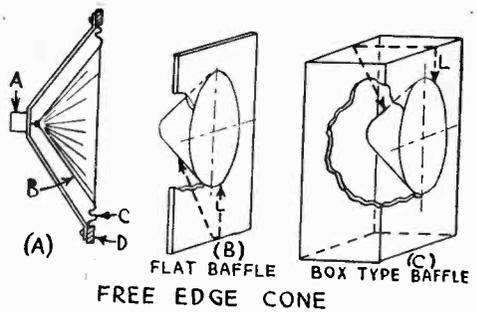

Figure 2
*Right, Fig. 2: One of the giant bakelite presses used for the manufacture of sheet bakelite. Compare this in size with the husky operator, who stands more than six feet tall.*
This is accomplished by placing a baffle around the cone, taking either of the forms shown in Fig. 2. The air must now take the long path L around the baffle in order to get from one side of the cone to the other. By making this path long enough, the air cannot get from the front to the back of the cone (or vice versa) in time to equalize the air pressure, as will now be explained.
It is evident then that the purpose of the baffle is simply to *delay* the meeting of the front and back sound waves by artificially increasing the distance from the front to the back of the cone. It is evident that to fully reproduce any note the shortest length of the path from the front to the back of the cone (distance L in Fig. 2, B and C) must be made at least equal to the distance the sound travels during the time it takes to complete one-quarter of a cycle of that note or during the time it takes the cone to move from the center position to the extreme position in either direction. The distance the sound travels during one complete cycle is defined as the wavelength of the sound and is equal to the velocity of sound, 1,084 feet per second, divided by the frequency in cycles per second. Therefore, the length a baffle should be, to permit full reproduction of any frequency, can be easily calculated by the simple rule that the baffle length in feet is equal to one-quarter the wavelength of the note to be reproduced. That is: